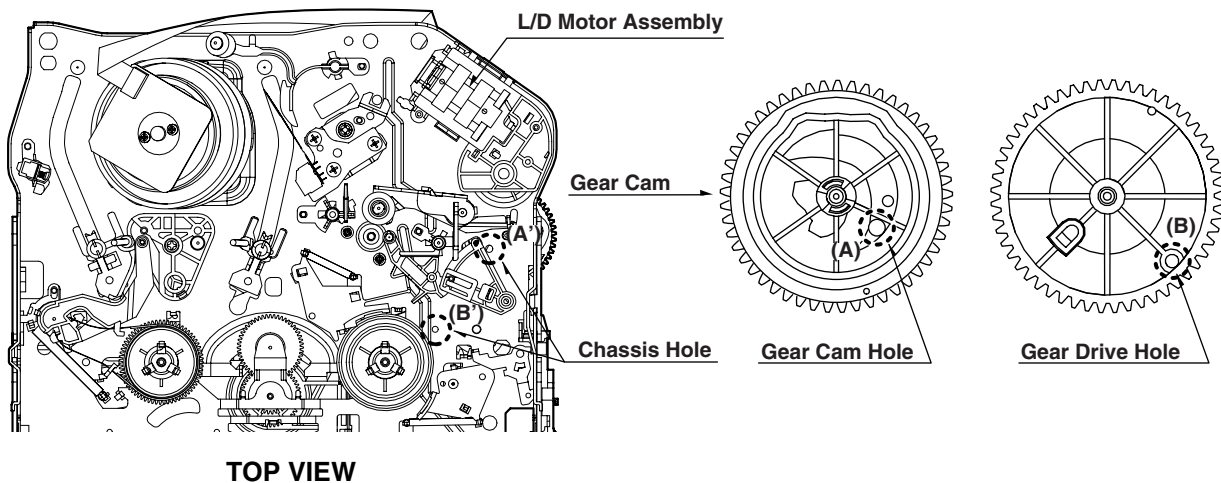

Fig. C-2
- 2) Remove the Top Cover and Plate Assembly Top, visually check if the Gear Cam is aligned with the Chassis Hole as below Fig. C-2.
- 3) IF not, rotate the Shaft of the Loading Motor to either clockwise or counterclockwise until the alignment is as below Fig. C-2.